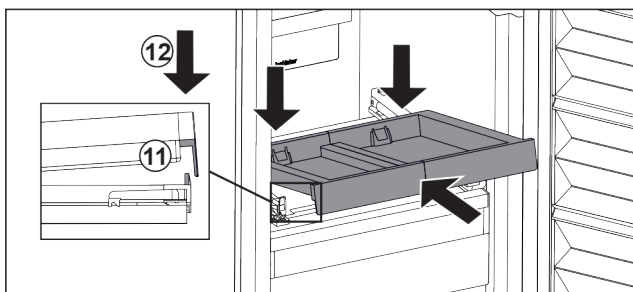

Fig. 33
- Slide it in at an angle. Make sure that the stop is behind the lug on both sides. Fig. 33 (11)
- Lower the pull-out board at the front. Fig. 33 (12)